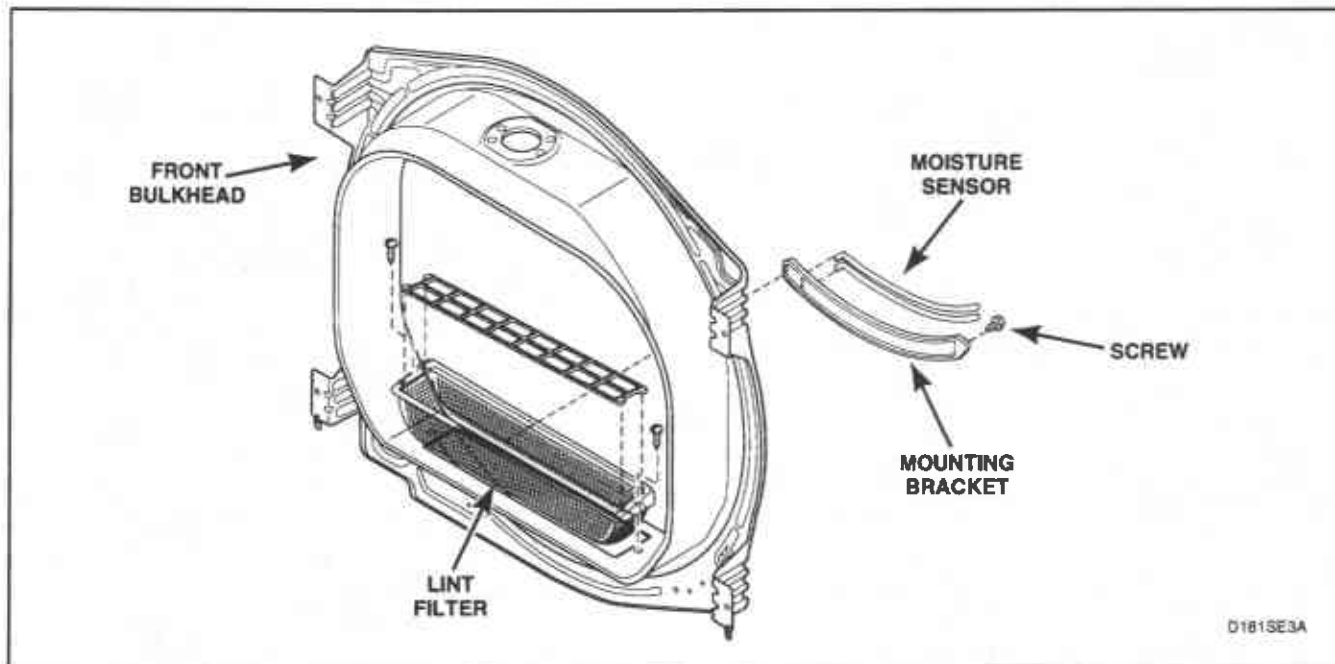

Figure 40
- Disconnect two wires connected to the moisture sensor, *Figure 40*.
- Remove the screw (located inside lower front bulkhead) holding moisture sensor mounting bracket to bulkhead, *Figure 40*.